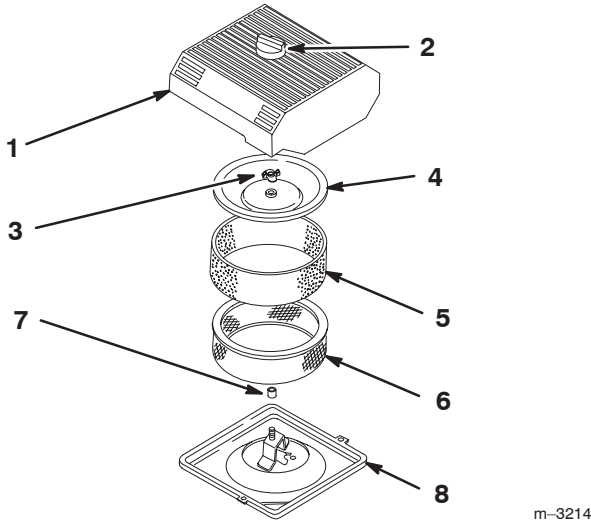

Figure 31
3. Clean around the air cleaner to prevent dirt from getting into the engine and causing damage (Fig. 31).
4. Loosen the knob on the air cleaner cover and remove the cover (Fig. 31).
5. Carefully slide the foam element off the paper element (Fig. 31).
6. Unscrew the cover nut and remove the cover and paper element (Fig. 31).
1. Carefully slide the foam element onto the paper air cleaner element (Fig. 31).
3. Install the cover nut finger-tight against the cover (Fig. 31).
4. Install the air cleaner cover and knob (Fig. 31).